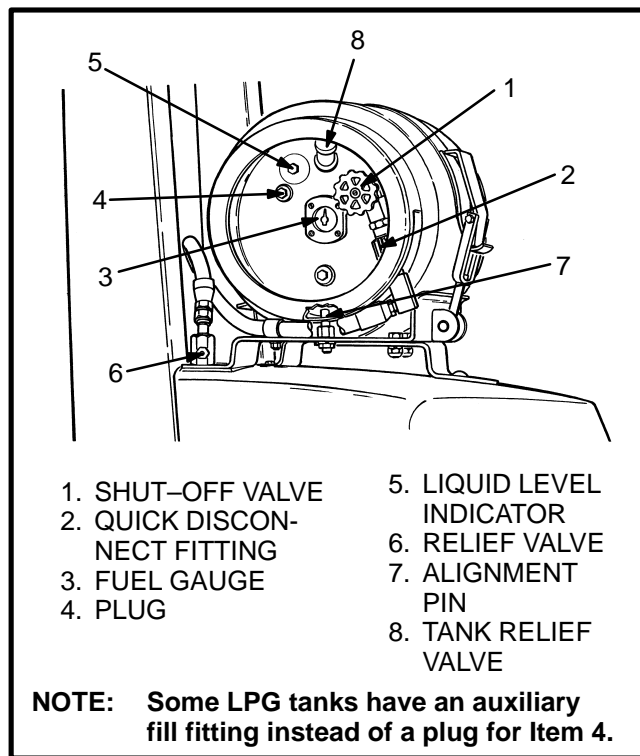

FIGURE 19. LPG TANK
**Installation (See FIGURE 19.)**